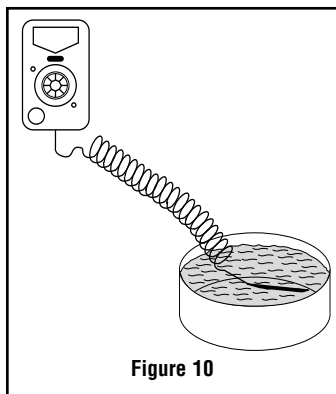

Figure 10
- A. If accurate measurement standards are not available, the thermostat can readily be adjusted to a known temperature standard such as boiling water (212°F). (See Figure 10.)